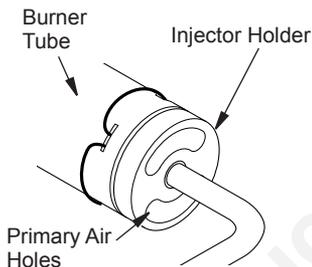

Figure 53 - Injector Holder On Outlet Burner Tube
2. Inspect burner, pilot and primary air inlet holes on injector holder for dust and dirt (see Figure 53).